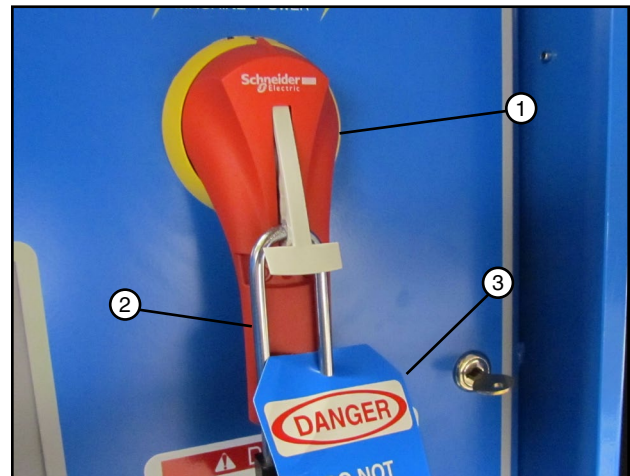

Figure 41-2 1. Main Disconnect
2. SHUT OFF and lock the control panel main power disconnect. See figure 41-2.
FILL OUT the blue (OSHA safety color code) tag and attach to the disconnect after locking. See figure 41-2.